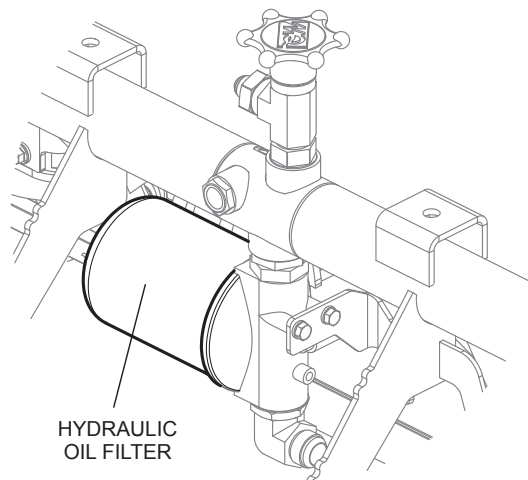

Figure 30. Hydraulic Oil Filter
1. Change the hydraulic oil and filter (Figure 30) after the first 100 hours of use, then change every 250 hours. Use 10-micron absolute synthetic media filter.